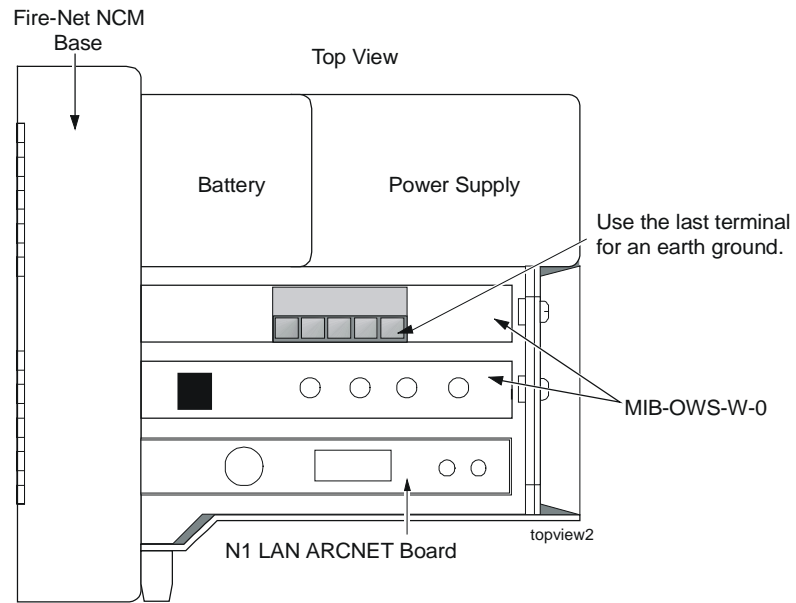
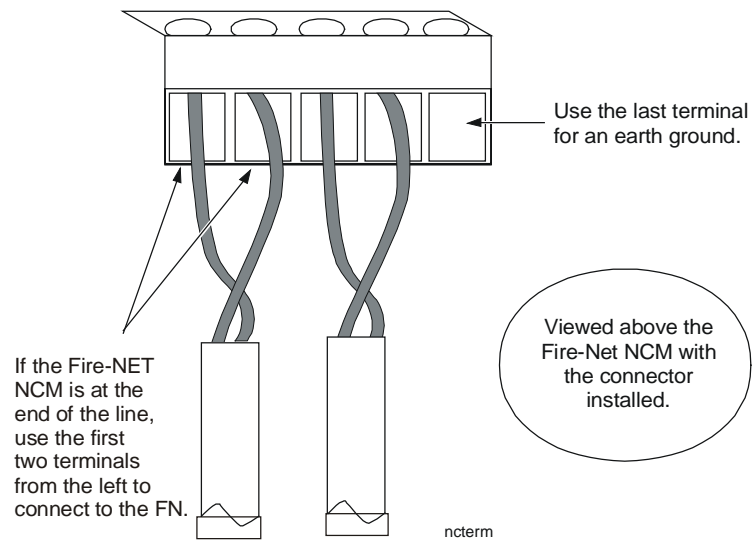

Figure 28: Orientation of the MIB-OWS Terminal Block
Figure 29: Installing the Twisted Pair into the MIB-OWS Terminal Block
1. Install each end of the twisted pair wire into the terminal block of the MIB-OWS board, starting at the far left (Figure 28 and Figure 29).
2. Earth ground the terminal block using the far right terminal (Figure 28).